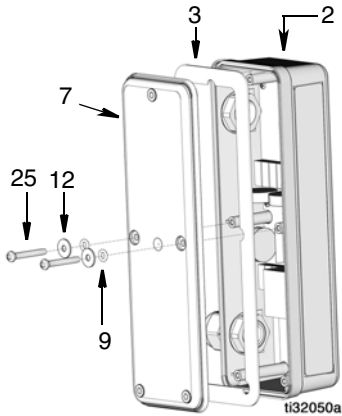

**FIG. 37**
- Feed one end of the cable through the cord grip (19) and into the PAC enclosure (2).
- Inside the PAC electronics enclosure (2), connect the neutral (white) wire to SOL - (white) and the line (black) wire to SOL + (black) in the terminal block (FIG. 37).
- Tighten cord grip (19) (FIG. 37).